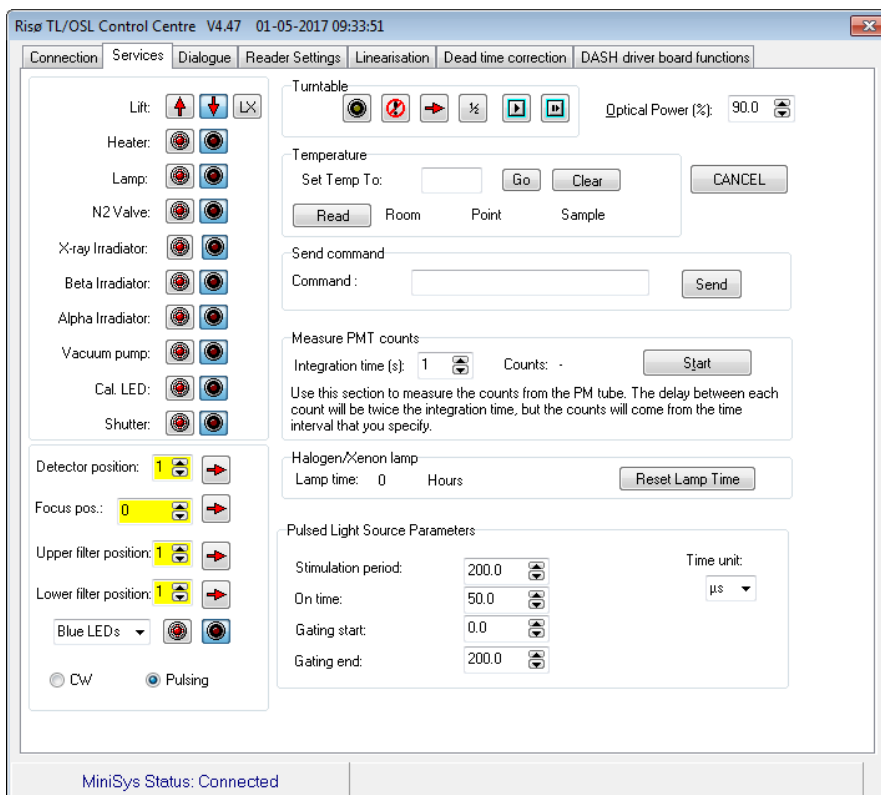

Figure 25. Screen shot of the “Services” tab in Control.
The Control PC program uses the low-level commands of the Controller to operate the hardware of the Reader. It is mainly used during commissioning or troubleshooting but this program can also be useful for end-users to perform simple and isolated tests of the different parts of the reader, e.g. raising and lowering the sample lift, setting the sample wheel position, changing filter settings in the DASH and turning stimulation lights on and off (in the “Services” tab, see Figure 25). When installing DASH, you must use “Control” to change the settings in the Controller.
When “Automated” DASH has successfully been selected, the “Services” tab (Figure 25) will show several new options:
- Stimulation light source (shown as “Blue LEDs in Figure 25)